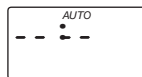

fig. 6
- To cancel a preset program, press the timer button **A** or **B** once and then press the hour button until the display shows "--:--" (fig.6).